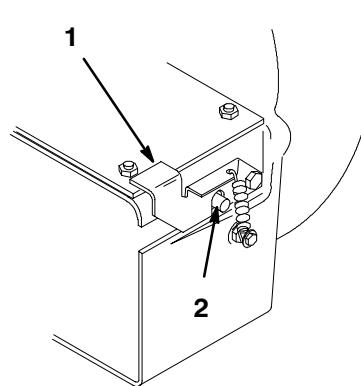

Figure 11
4. With the belt installed, swing the blower toward the mower until the blower latch locks over the pin at the back of the mower (Fig. 11).